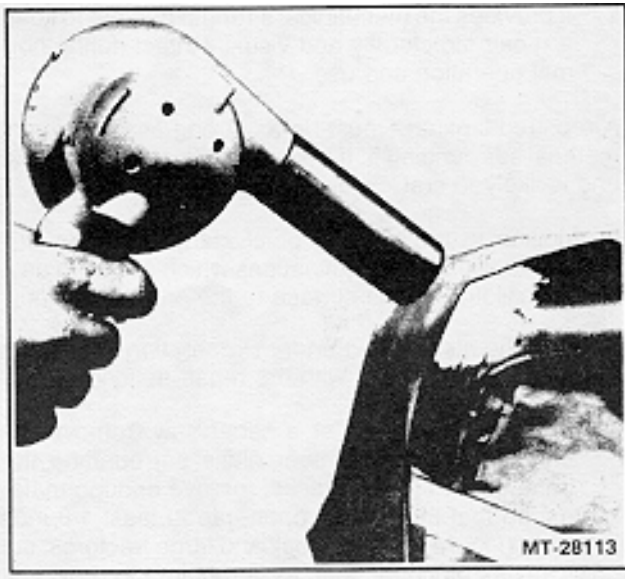

Figure 14 - Shrinking Body Filler
- 7 Pre-shrink filler, using a heat gun or heat lamp (Figure 14). A minimum temperature of 49°C (1200F) is required for shrinkage.